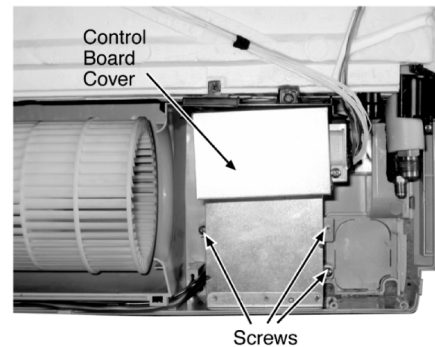

Fig. 6
1. Remove the Control Board Cover by removing the screws (Fig. 6).